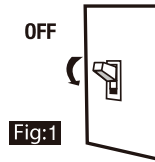

Fig:1
1) Turn-off power before installation(Fig.1).